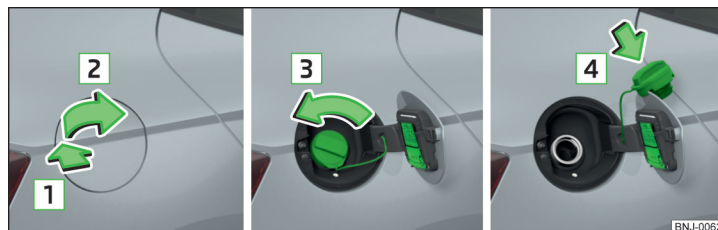

Fig. 256 Open fuel filler flap / unscrew tank cap / place the tank cap on the fuel filler flap
- Press the fuel filler flap in direction of arrow 1 and fold in the direction of arrow 2 » Fig. 256.